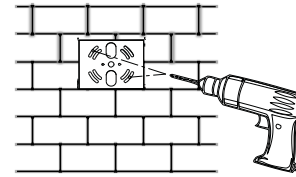

Figure 7
4. Using the mounting bracket as a template, mark and drill mounting holes on the wall on which you intend to mount the luminaire (see Figure 7).